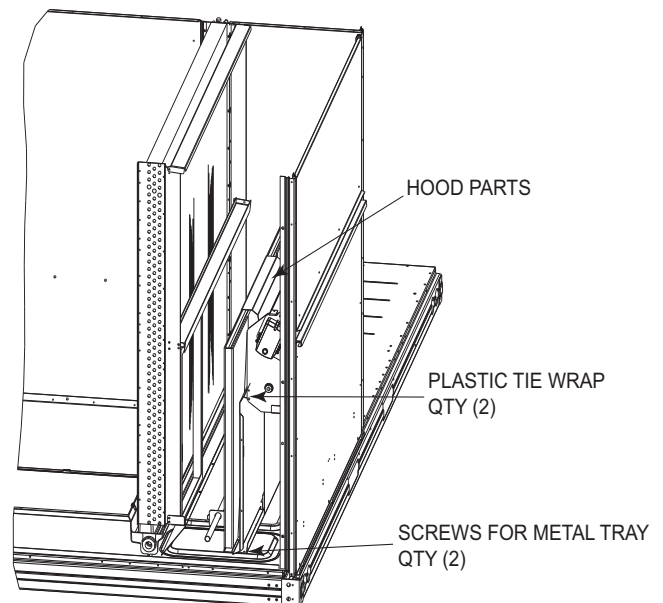

Fig. 15 — Damper Assembly
3. Locate the (2) screws holding the metal tray to the basepan and remove. In order to remove the screws, it may be necessary to remove the panel underneath the two-position damper. Remove the two screws. Locate and cut the (2) plastic tie-wraps securing the assembly to the damper. (See Fig. 15.) Be careful to not damage any wiring or cut tie-wraps securing any wiring.